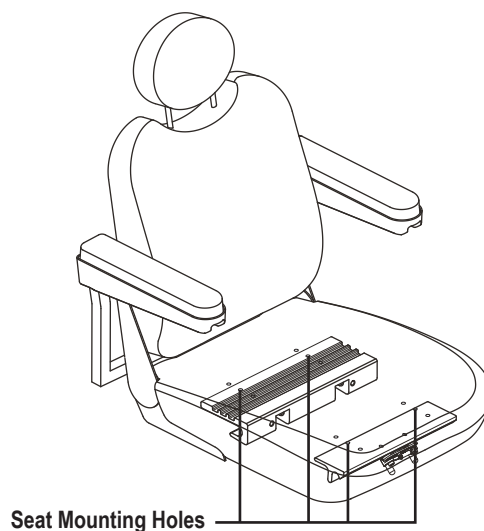

Figure 11. Seat Position Adjustment
7. Remove the hardware that attaches the trapeze bars to the seat interface weldments. **See figure 11.**
6. Reposition the extrusions on a different set of mounting holes. You must move both extrusions the same number of holes either forward or backwards. **See figure 11.**